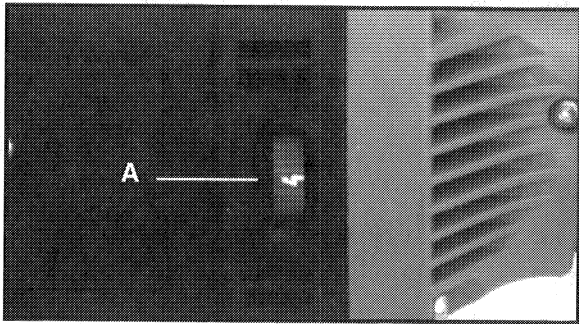

Fig. 2
Speed is adjusted by turning the thumbwheel (A) Fig. 2. Thumbwheel position #1 provides the slowest operating speed (1000 RPM) and position #6 the fastest (3000 RPM). Speed may be changed while motor is running or while it is stopped.